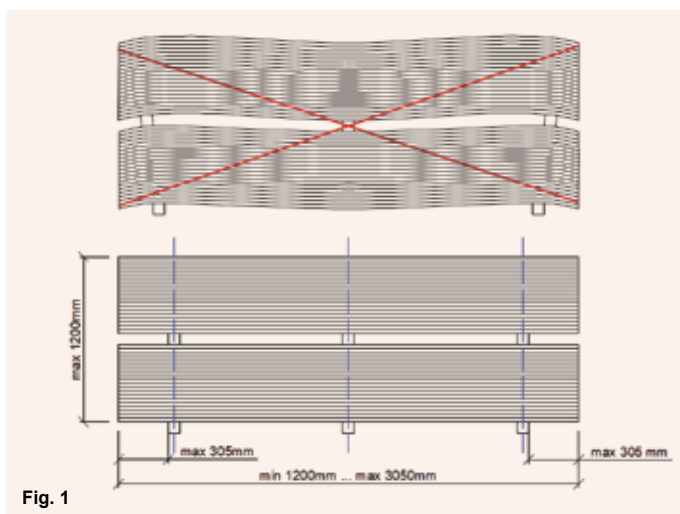

Fig. 1
**VMG Lignum Board | Wall T&G2** should be stacked horizontally on wooden battens (100 x 80 mm). Wooden battens should be of the same dimensions and spaced no further than 700 mm apart. At the edges, **VMG Lignum Board | Wall T&G2** should not project from the last wooden battens by more than 150 mm. Wooden battens should be vertically aligned to avoid damage (Fig. 1).